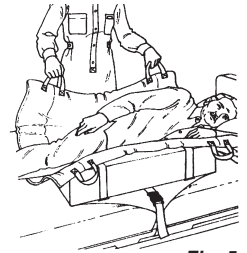

Fig. 5
- To facilitate turning resident, try Skil-Care's TLC Pad. (Fig. 5)